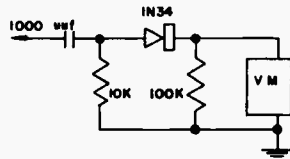

Figure 14. DETECTOR NETWORK
5. With 4.5 MC input signal applied as in steps 2, 3 and 4, connect a detector network to the picture tube cathode lead and connect the meter across it. Refer to Figure 14.